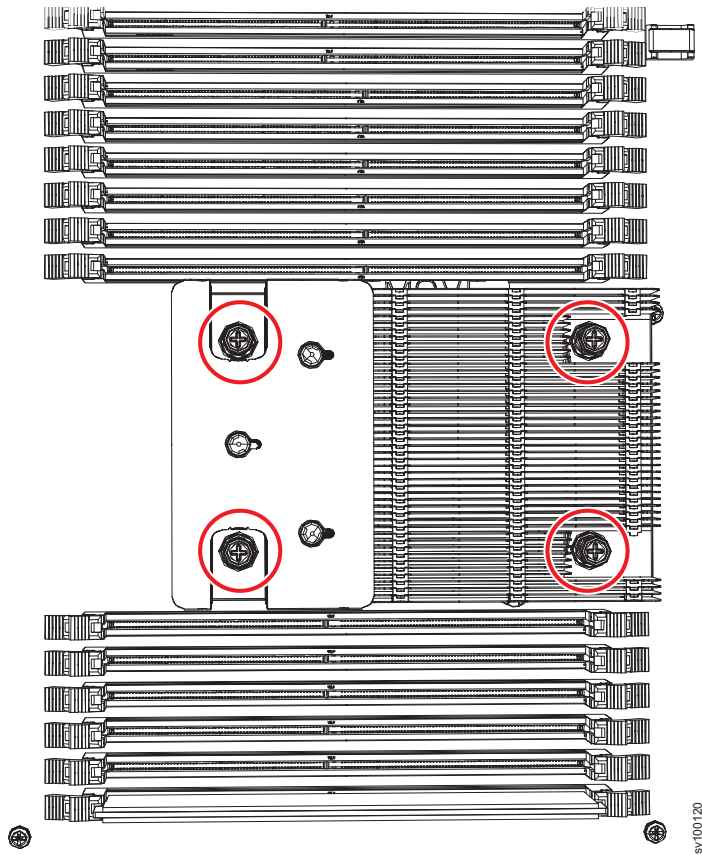

Figure 301. Installing the heat sink on the 2145-SV1 microprocessor
8. Align the heat sink on top of the microprocessor, as shown in Figure 301 on page 364. If you are installing a new heat sink, remove the grease cover.